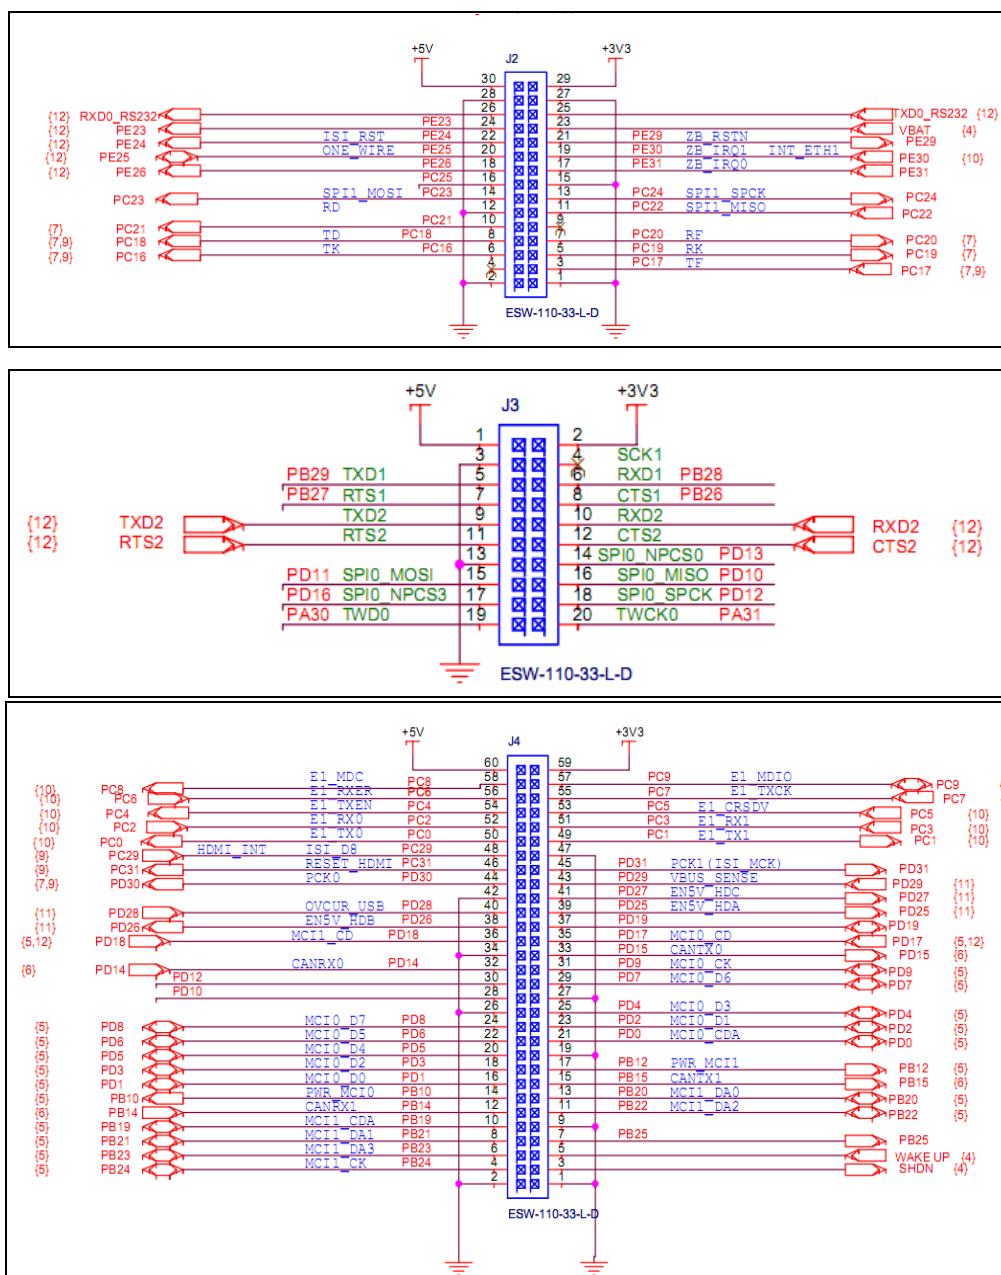

Figure 2-9
(3) User interface is shown in figure 2-9: